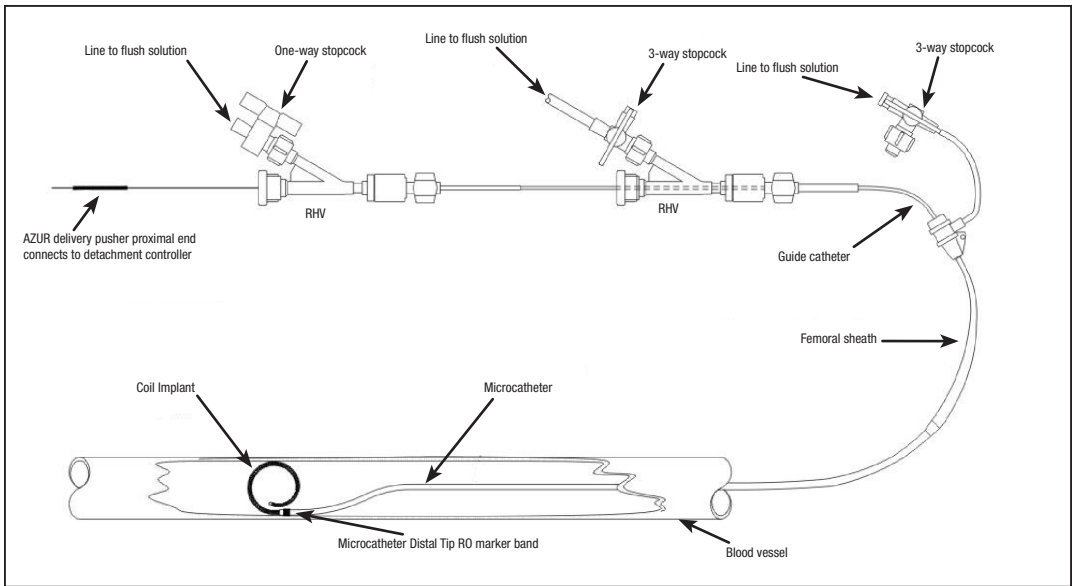

Figure 1 – Diagram of AZUR System Setup
- Do **NOT** use in conjunction with radio frequency (RF) devices.
1. Refer to Figure 1 for the set-up diagram.
5. Using standard interventional procedures, access the vessel with a guide catheter. The guide catheter should have an inner diameter (ID) large enough to allow for contrast injection while the microcatheter is in place. This will allow for fluoroscopic road mapping during the procedure.